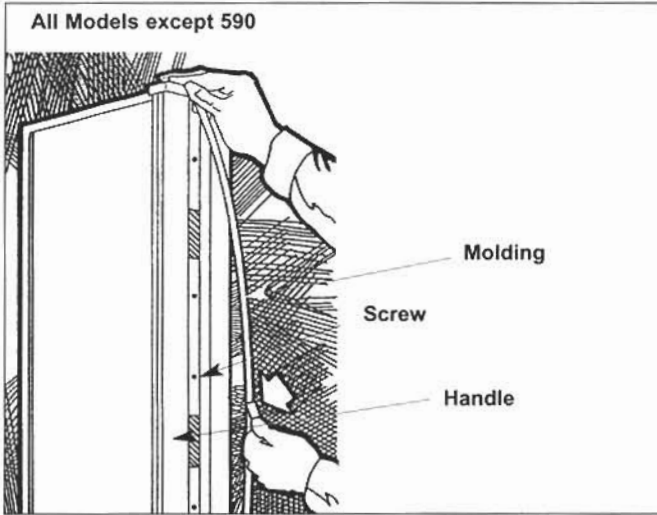

Figure 2-15. Door Moldings and Handle
1. Remove the door handle trim moldings from the handle. The trim moldings are held in place with magnets. Place one end of a piece of tape in the center of the molding, and remove molding by pulling on the tape (Figures 2-15).
2. Remove the door handle screws (Figure 2-15) and remove the door handle.